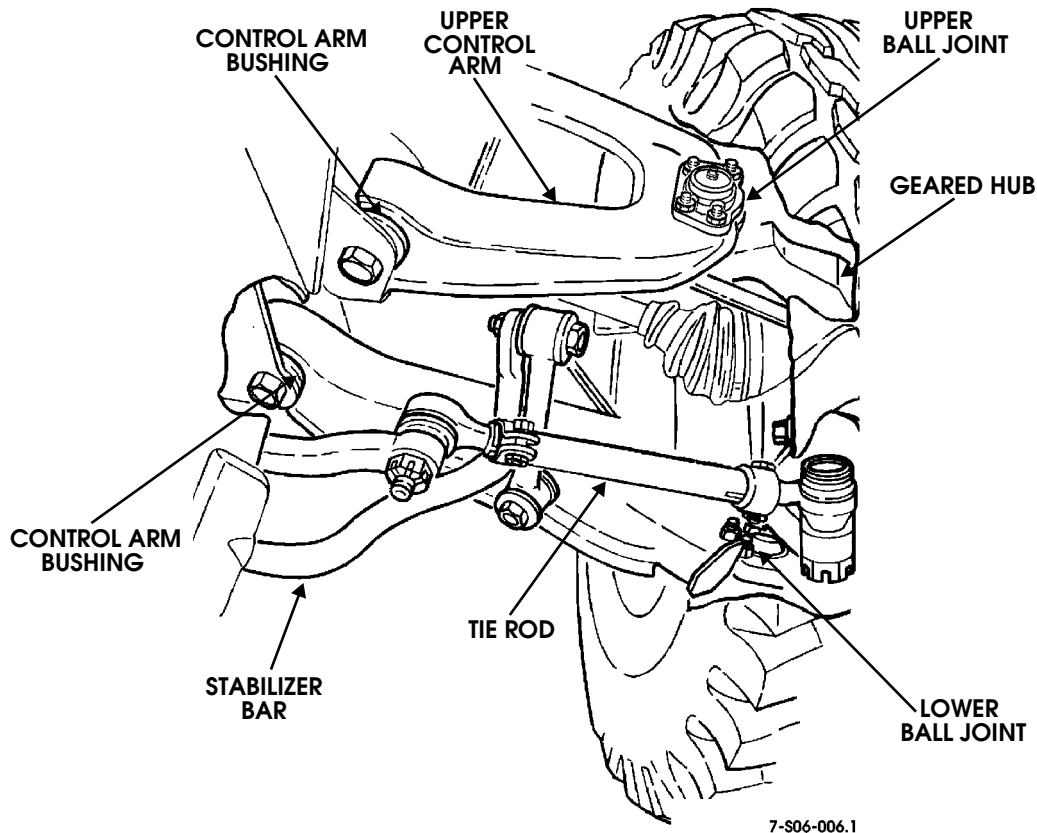

Figure 6-43: Suspension Inspection Components
3. Check tie rods and upper control arms for distortion, play, or looseness (Figure 6-43). Replace worn, damaged parts before proceeding.